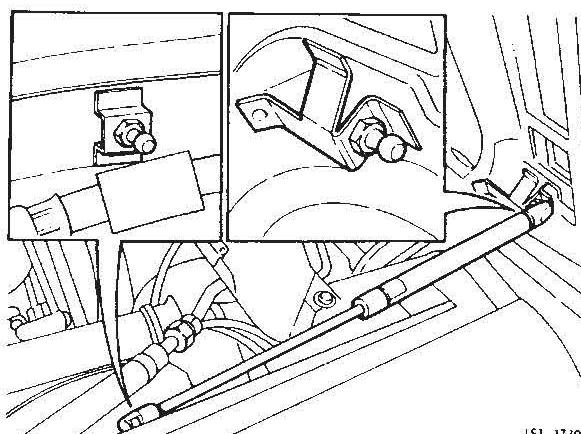

FIG 1
- * Refer to Fig 1. Fit the "Ball Pin" strut mountings into the mounting brackets on the bonnet and the inner wing. Secure by applying a torque of 10 Nm minimum to 12 Nm maximum.